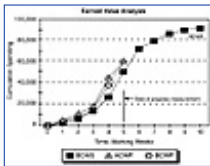

Figure 8-5 Earned value analysis—ahead of schedule, spending on target.
Figure 8-5 illustrates another scenario. In this case, the BCWP and the ACWP curves both fall at the same point, that is, at 60K. This means that the project is ahead of schedule but spending correctly for the amount of work done.
- When ACWP and BCWP are almost equal and larger than BCWS (see Figure 8-5), it usually means that extra resources have been applied to the project, but at the labor rates originally anticipated. This can happen in several ways. Perhaps you planned for weather delays, but the weather has been good and you have gotten more work done during the analysis period than intended but at the correct cost. Thus, you are ahead of schedule but spending correctly.